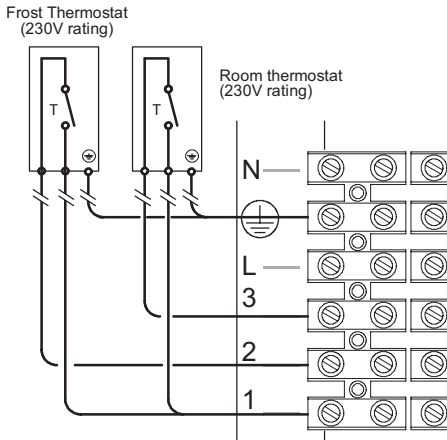
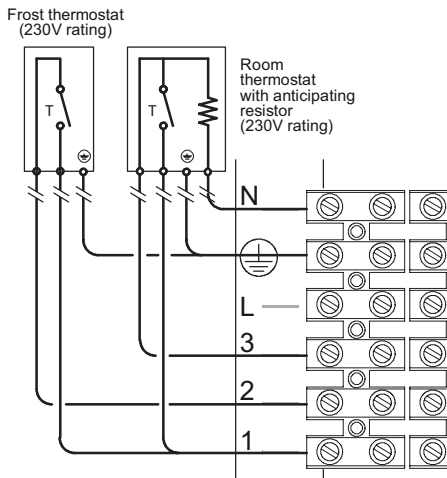

Fig. 6.24
Fig. 6.25
- Connect the frost thermostat between terminals 1 and 2 as shown in Fig. 6.24 or Fig. 6.25.